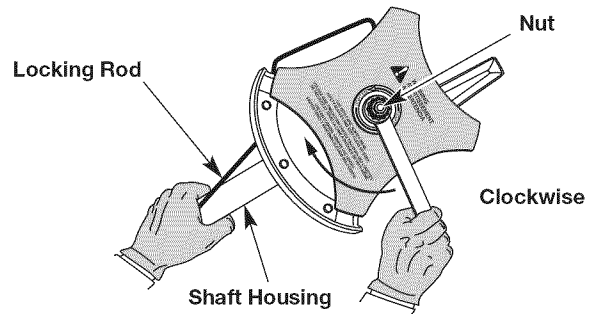

Fig. 14
3. Hold the locking rod firmly against the shaft housing (Fig. 14).